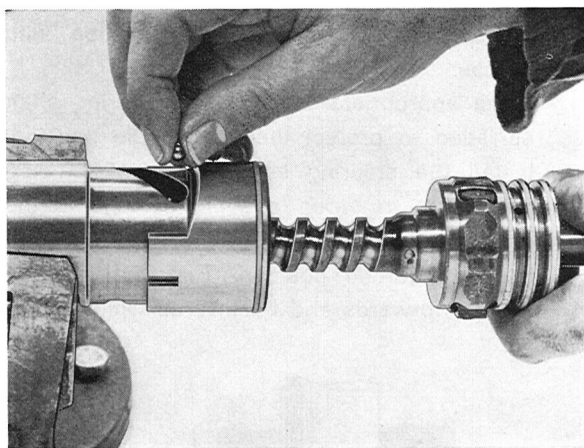

Fig. 6-92. Inserting balls
- Clamp the piston between soft jaws in a vise. Slide the sleeve (24) onto the worm. Insert the worm far enough into the front piston bore that its top comes opposite the first recess for the pipe half. Fill the bore (Fig. 6-92) with